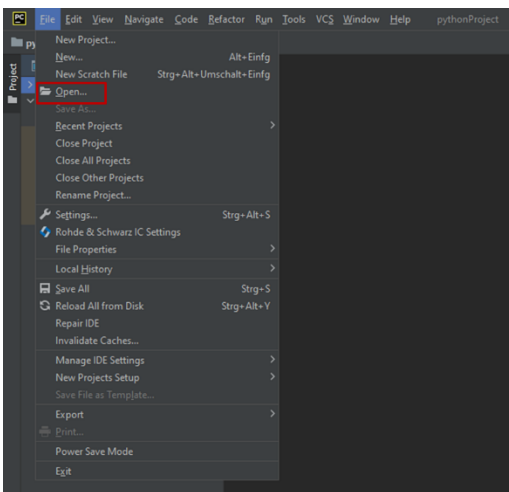

Figure 4-25 Open project in PyCharm
- ▶ Launch PyCharm on control PC and go to File > Open (Figure 4-25)